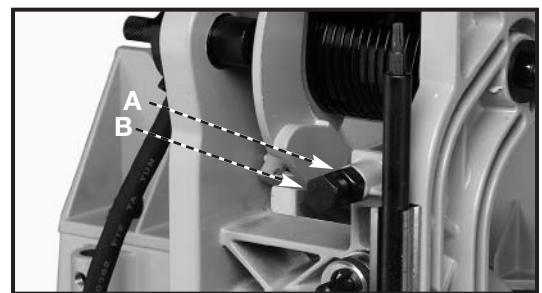

Fig. 30
The tension of the cuttinghead return spring has been adjusted at the factory so that the cuttinghead returns to the “up” position after a cut has been made. To re-adjust the spring tension, loosen the nut (A) Fig. 30 and turn the adjusting screw (B) Fig. 30 clockwise to increase, or counterclockwise to decrease the spring tension. Tighten nut (A) securely.